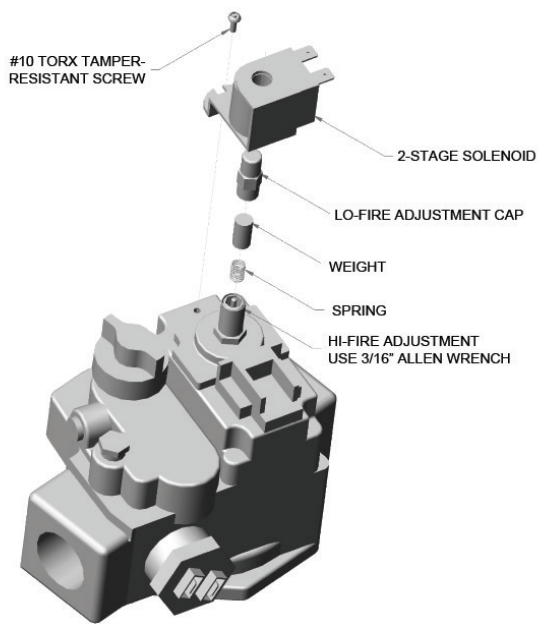

Figure 35. 2-Stage Gas Valve Adjustment (Invensys)
1. Use a 3/8" wrench and remove the aluminum cap located under the solenoid valve. Count number of turns when removing the cap. Be careful not to drop the cylinder (weight) or the small spring that is under the cap. See **Figure 35**.
4. Install the spring, weight and aluminum cap. Tighten the cap using same number of turns as was used in removing the cap. See **Figure 35**.